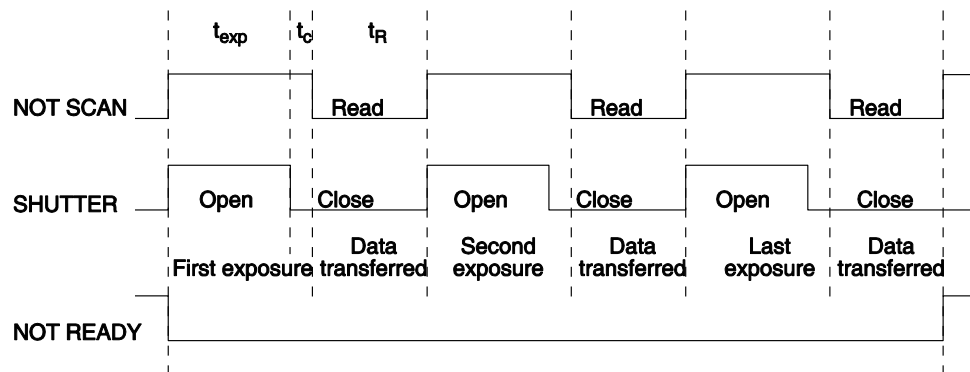

Figure 31. Comparison of *NOT SCAN*, *SHUTTER*, and *NOT READY* Logic Output Levels
- **NOT READY:** After a start acquisition command, this output changes state on completion of the array cleaning cycles that precede the first exposure. Initially high, it goes low to mark the beginning of the first exposure. In free run operation it remains low until the system is halted. If a specific number of frames have been programmed, it remains low until all have been taken and then returns high. Figure 31 assumes 3 frames have been programmed.